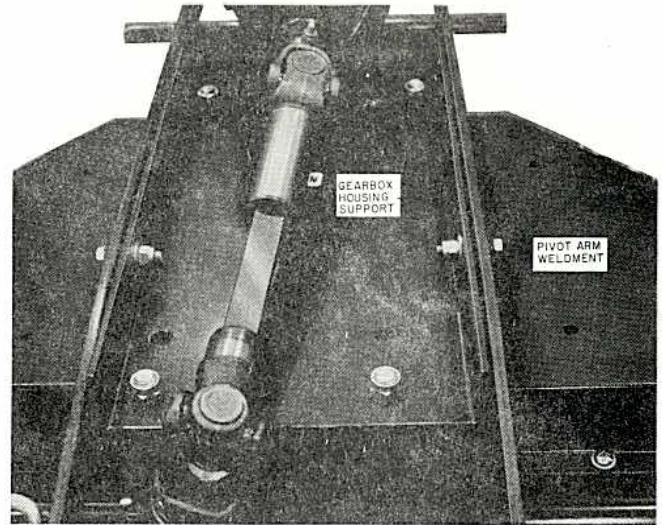

fig 4
7. Bolt pivot arm weldment to gearbox housing support; bolt heads outside, nuts and washers to the inside, fig 4.